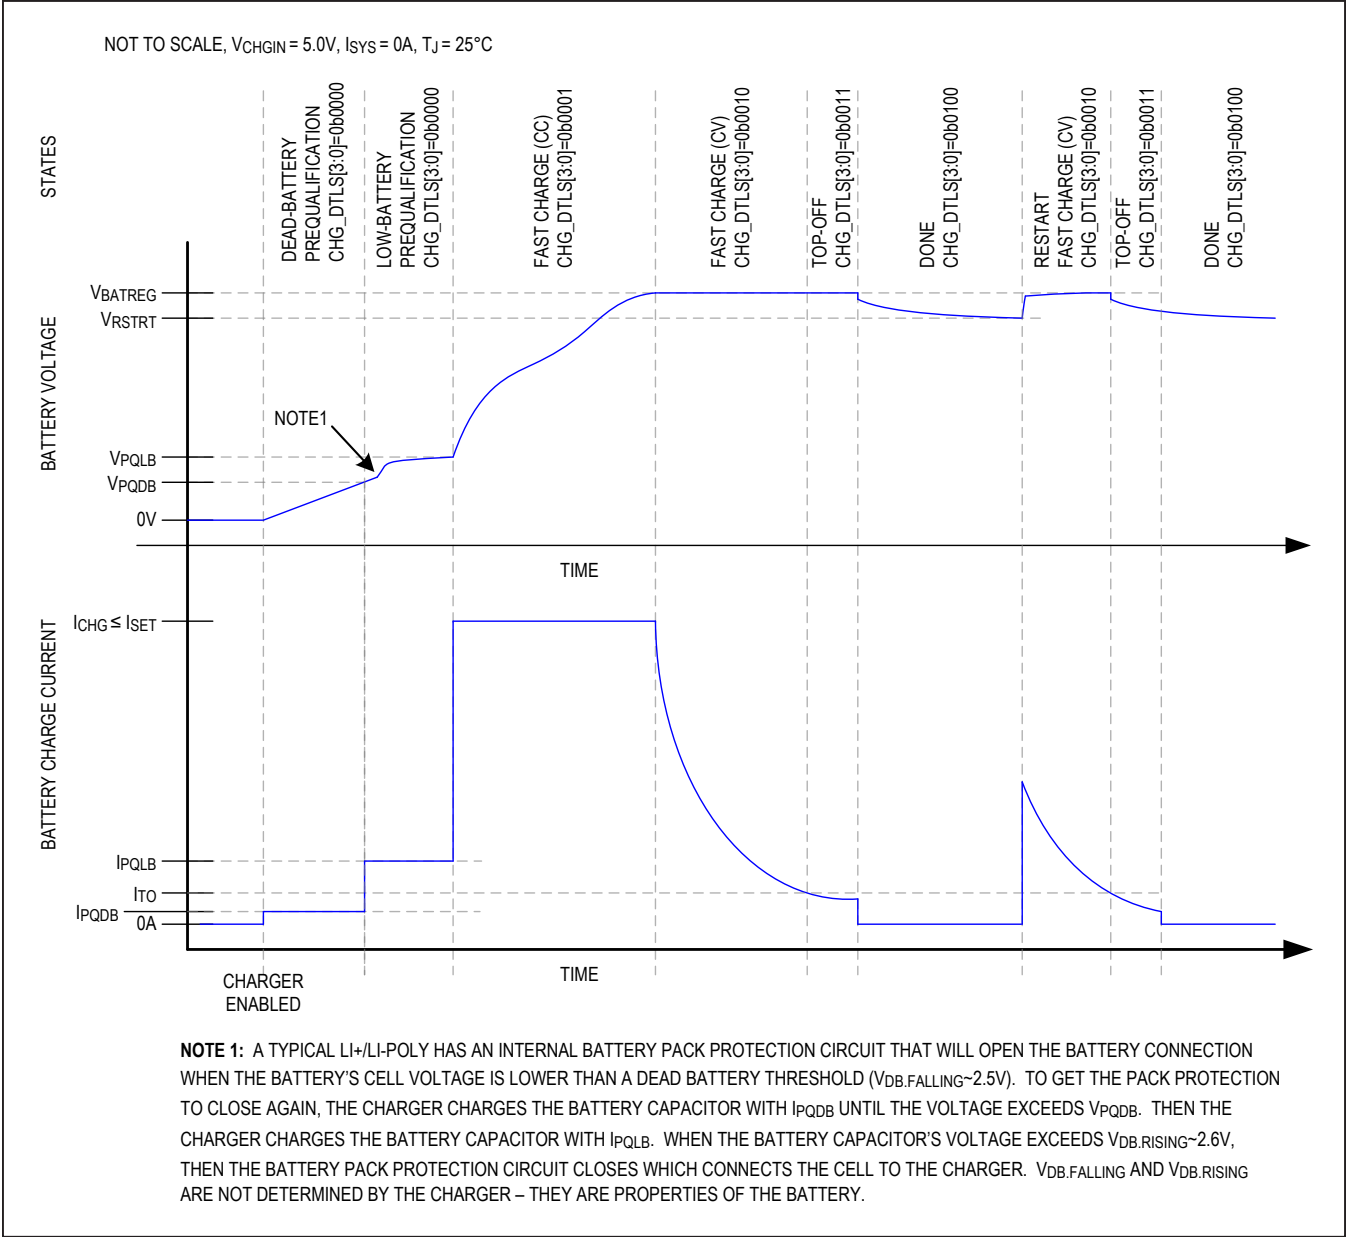
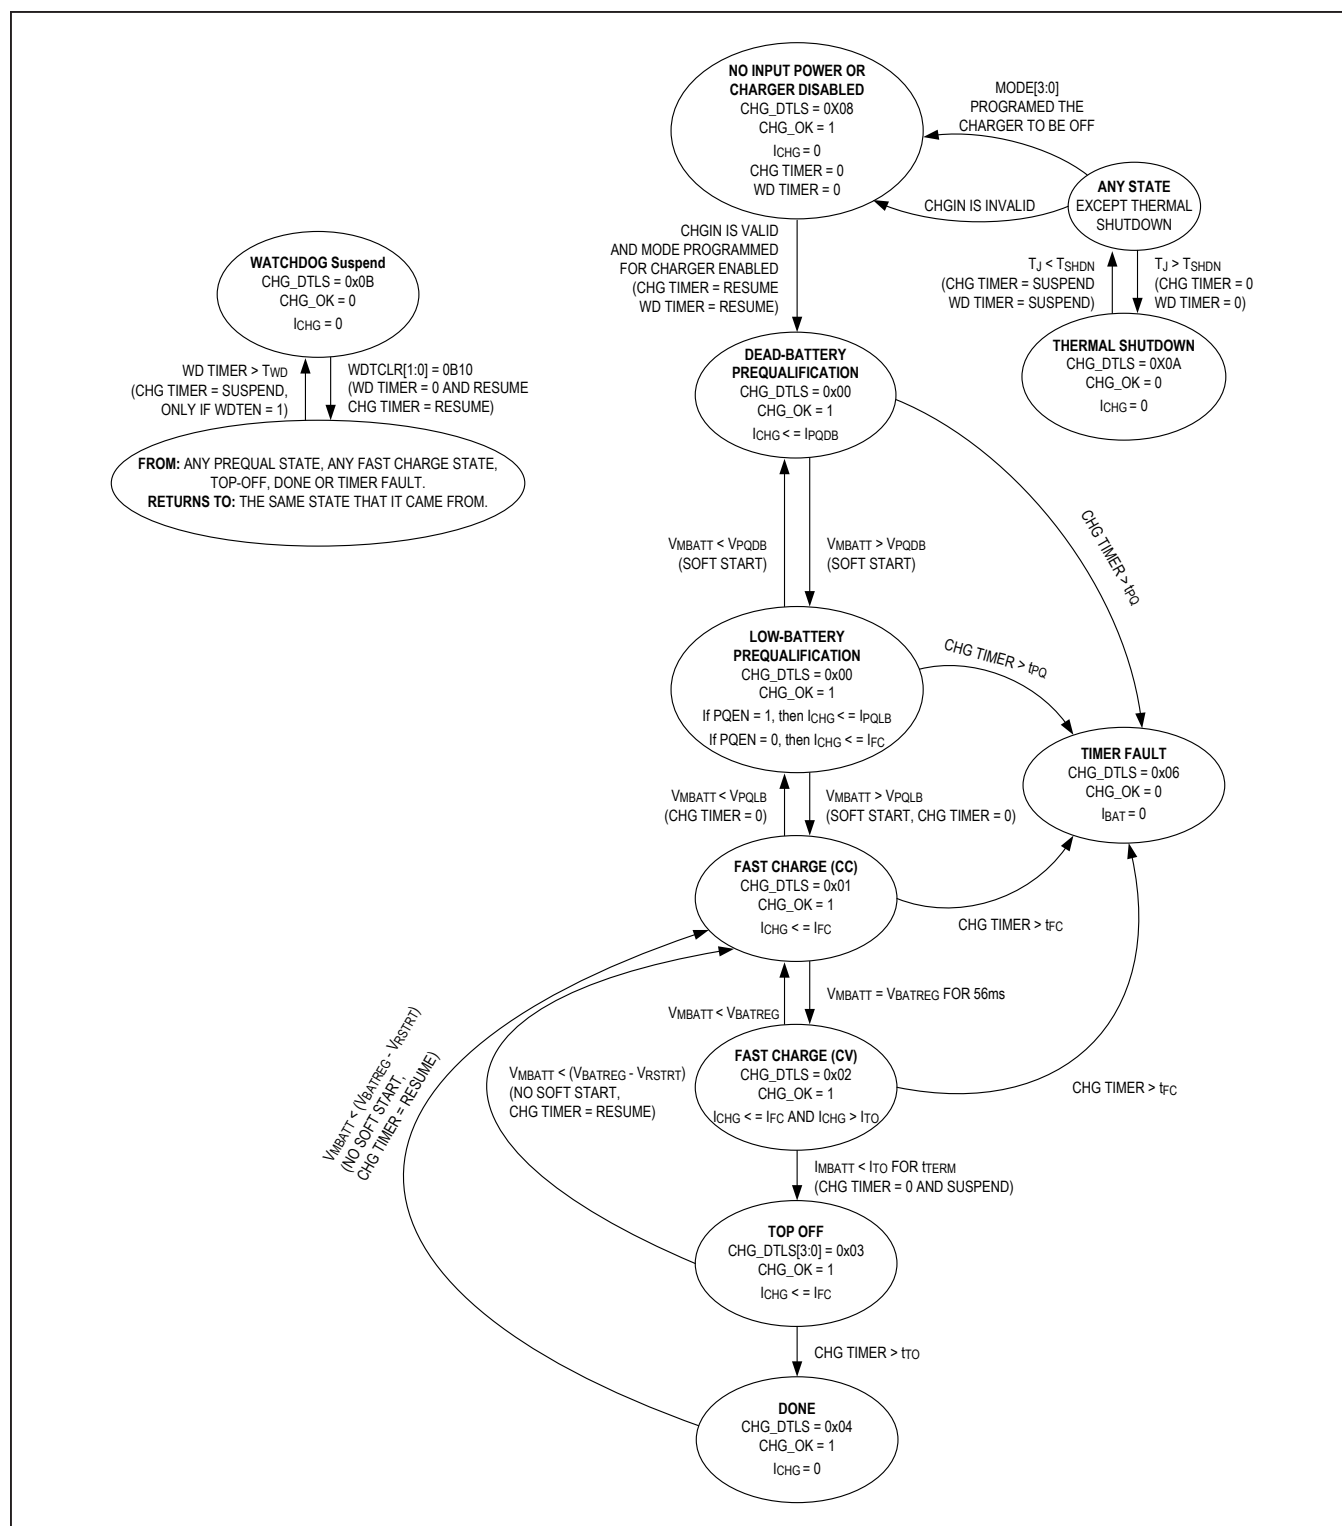

Figure 6. Li+/Li-Poly Charge Profile
Figure 7. Charger State Diagram
The MAX77818 utilizes several charging states to safely and quickly charge batteries as shown in Figure 6 and Figure 7. Figure 6 shows an exaggerated view of a Li+/Li-Poly battery progressing through the following charge states when there is not system load and the die and battery are close to room temperature: prequalification → fast-charge → top-off → done.
From any state shown in Figure 7 except thermal shut-down, the no input power or charger disabled state is entered whenever the charger is programmed to be off or the charger input CHGIN is invalid. After being in this state for t_{SCIDG} , a CHG_I interrupt is generated, CHG_OK is set and CHG_DTLS is set to 0x08.
As shown in Figure 7, the dead battery prequalification state occurs when the main battery voltage is less than V_{PQDB} . After being in this state for t_{SCIDG} , a CHG_I interrupt is generated, CHG_OK is set and CHG_DTLS is set to 0x00. In the dead battery prequalification state charge current into the battery is I_{PQDB} .
As shown in Figure 7, the fast-charge constant current (CC) state occurs when the main battery voltage is greater than the low battery prequalification threshold and less than the battery regulation threshold ($V_{PQLB} < V_{BATT} < V_{BATREG}$). After being in the fast-charge CC state for t_{SCIDG} , a CHG_I interrupt is generated, CHG_OK is set and CHG_DTLS = 0x01.
As shown in Figure 7, the fast-charge constant voltage (CV) state occurs when the battery voltage rises to V_{BATREG} from the fast-charge CC state. After being in the fast-charge CV state for t_{SCIDG} , a CHG_I interrupt is generated, CHG_OK is set and CHG_DTLS = 0x02.
In the fast-charge CV state the battery charger maintains V_{BATREG} across the battery and the charge current is less than or equal to I_{FC} . As shown in Figure 6, charger current decreases exponentially in this state as the battery becomes fully charged.
As shown in Figure 7, the top-off state can only be entered from the fast-charge CV state when the charger current decreases below I_{TO} for t_{TERM} . After being in the top-off state for t_{SCIDG} , a CHG_I interrupt is generated, CHG_OK is set and CHG_DTLS = 0x03. In the top-off state the battery charger tries to maintain V_{BATREG} across the battery and typically the charge current is less than or equal to I_{TO} .
As shown in Figure 7, the battery charger enters its done state after the charger has been in the top-off state for t_{TO} . After being in this state for t_{SCIDG} , a CHG_I interrupt is generated, CHG_OK is cleared and CHG_DTLS = 0x04.
The battery charger provides both a charge timer and a watchdog timer to ensure safe charging. As shown in Figure 7, the charge timer prevents the battery from charging indefinitely. The time that the charger is allowed to remain in its each of its prequalification states is t_{PQ} . The time that the charger is allowed to remain in the fast-charge CC and CV states is t_{FC} which is programmable with FCHGTIME. Finally, the time that the charger is in the top-off state is t_{TO} , which is programmable with TO_TIME. Upon entering the timer fault state a CHG_I interrupt is generated without a delay, CHG_OK is cleared and CHG_DTLS = 0x06.
In the timer fault state the charger is off. The charger can exit the timer fault state by programming the charger to be off and then programming it to be on again through the MODE bits. Alternatively, the charger input can be removed and reinserted to exit the timer fault state. See the any state bubble in the upper right of Figure 7.
The battery charger provides both a charge timer and a watchdog timer to ensure safe charging. As shown in Figure 7, the watchdog timer protects the battery from charging indefinitely in the event that the host hangs or otherwise cannot communicate correctly. The watchdog timer is disabled by default with WDTEN = 0. To use
As shown in Figure 7, the thermal shutdown state occurs when the battery charger is in any state and the junction temperature (T_J) exceeds the device's thermal shutdown threshold (T_{SHDN}). When T_J is close to T_{SHDN} , the charger has folded back the input current limit to 0A so the charger and inputs are effectively off. Upon entering this state, CHG_I interrupt is generated without a delay, CHG_OK is cleared, and CHG_DTLS = 0x0A.